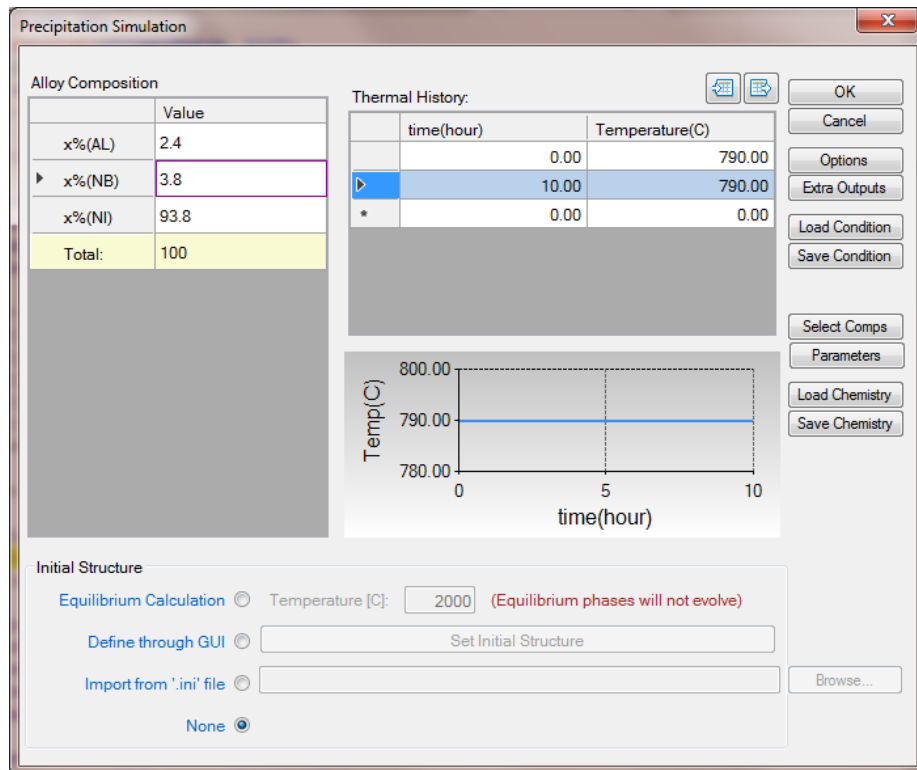

Figure 3.3.3: Precipitation simulation of alloy Ni-2.4Al-3.8Nb ageing at 790°C for 10h
- Click on PanPrecipitation->Precipitation Simulation, and set up the calculation condition as shown in Figure 3.3.3;